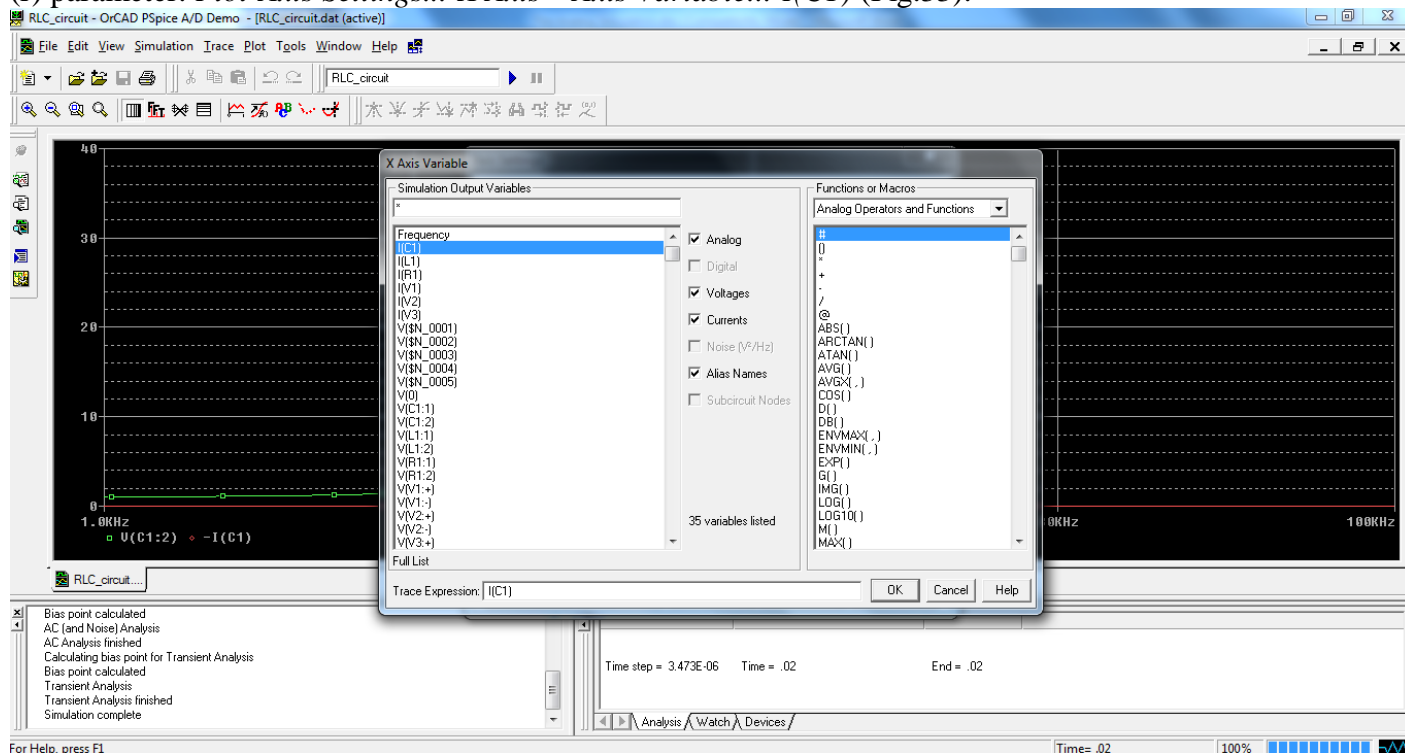

Fig.33. Changing the X-axis parameter to display the V-I characteristic
To display V-I characteristic on the component (e.g. the capacitor), change the X-axis parameter to the *current (I)* parameter: *Plot-Axis Settings...-X Axis – Axis Variable...-I(C1)* (Fig.33).